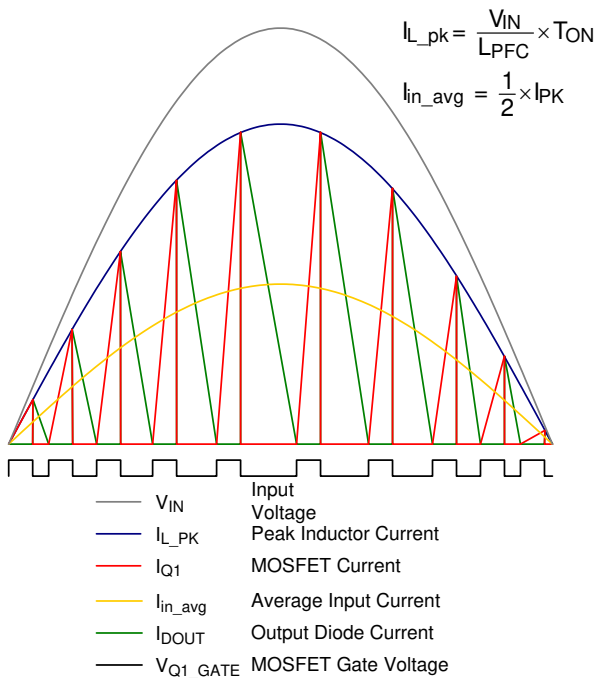

Figure 3. Inductor Current of CRM with Constant On-Time Voltage Mode Control
If the input voltage is a sinusoidal waveform and rectified by a bridge rectifier, the inductor current can be expressed with equation (2). When the converter operates in CRM with constant on-time voltage mode control, the envelope of inductor peak current will follow the input voltage waveform with in-phase. The average inductor current will be half of the peak current shown as Figure 3. Therefore, the near unity power factor is easy to be achieved by this control scheme.